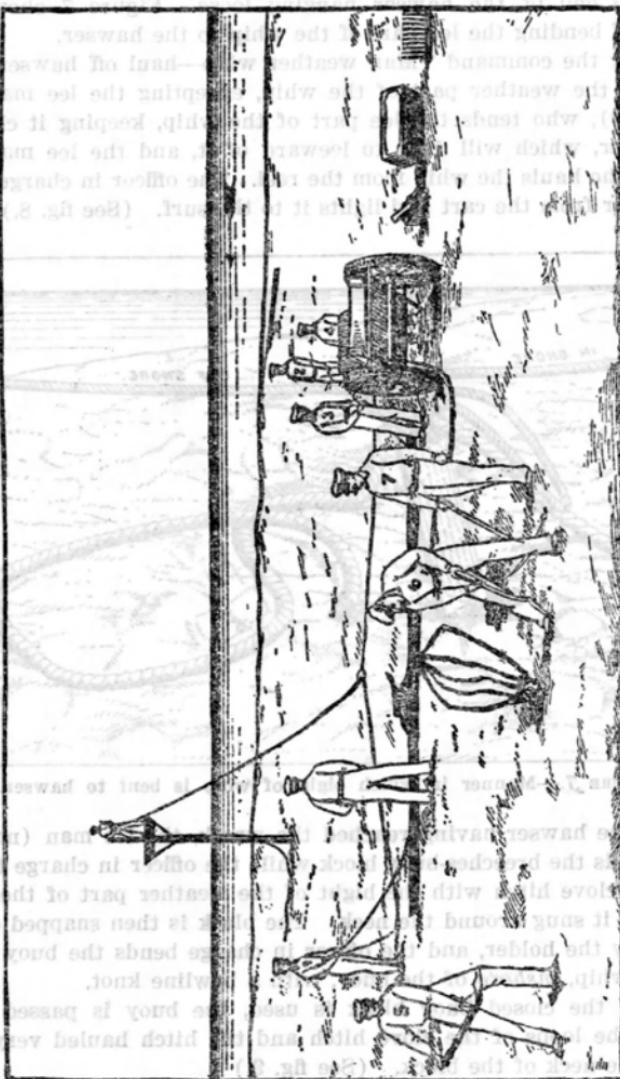

FIGURE 6.—Hauling off whip.
(11) The officer in charge makes a signal to the wreck to haul on board; no. 1 tends to the left and no. 2 the right part of the whip, separating them a distance of 50 or more yards; nos. 3 and 4 haul the whip from the reel as fast as it is needed, no. 3 standing on the left, no. 4 on the right. (See fig. 6.)